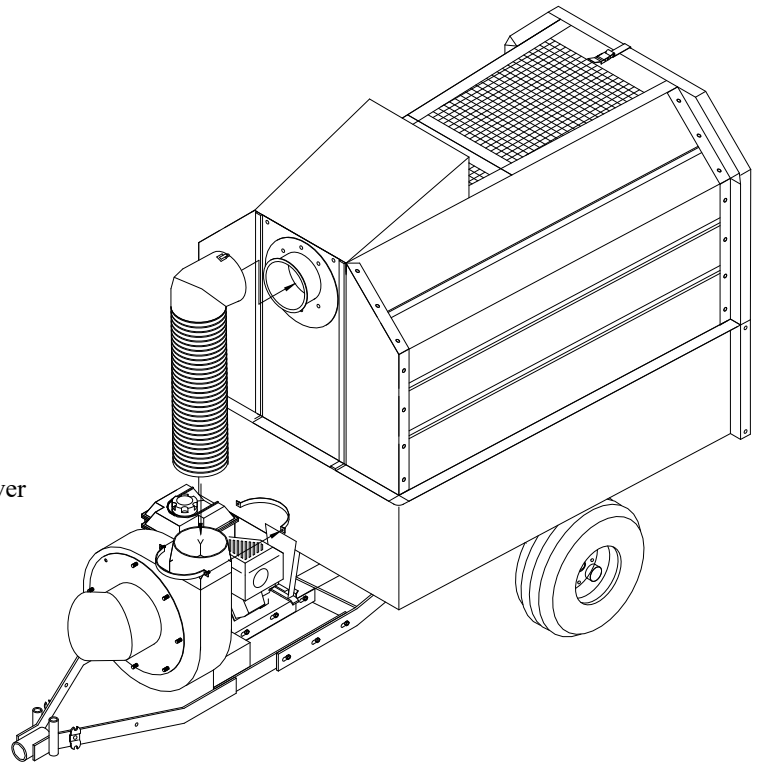

Fig. 3
(4). Attach two piece metal hose clamp (10) on first two convolutions of metal hose and tighten. Attach other end of metal hose into cart connector (11) on cart cover. **Fig. 3**